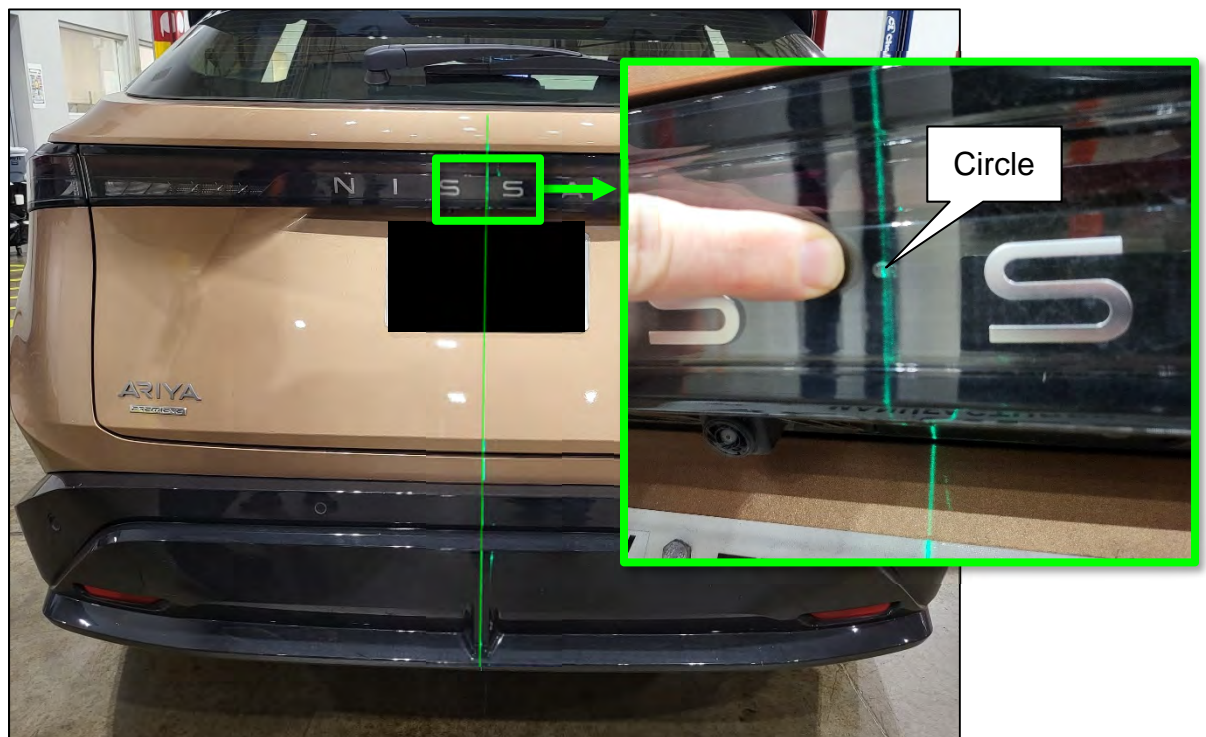

Figure 68
46. Place the laser level approximately 800 mm (31.5 in.) from the rear of the vehicle and align the laser with the center mark at the front of the vehicle and the circle in between the S's in NISSAN, as shown in Figure 68.